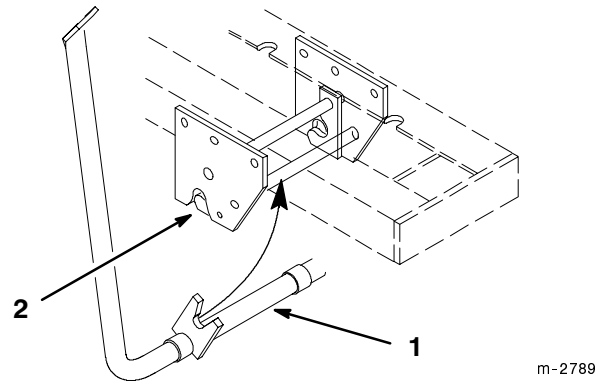

Figure 12
17. Open mid hitch and install handle support (Fig. 12). Align notch on handle with hitch rod so it does not rotate.